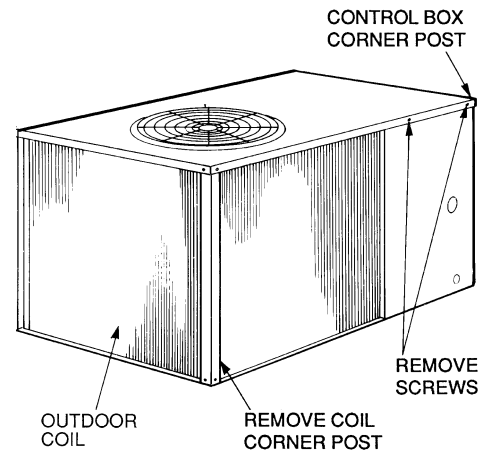
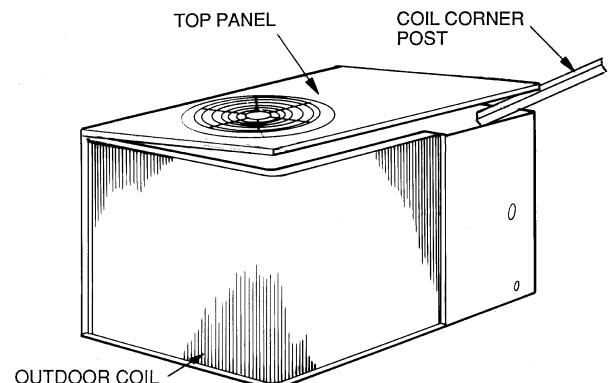

Fig. 14 — Cleaning Outdoor Coil
Fig. 15 — Propping Up Top Panel
3. Remove outdoor coil corner post. See Fig. 14. To hold top panel open, place coil corner post between top panel and side panel. See Fig. 15.